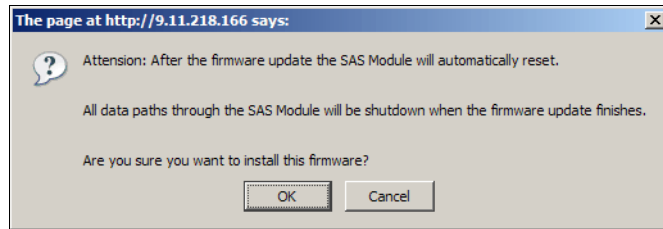

Figure 20-5 SAS Connectivity Module - Installation confirmation
- Click **Install** to install the new file. An installation confirmation window opens, as shown in Figure 20-5.